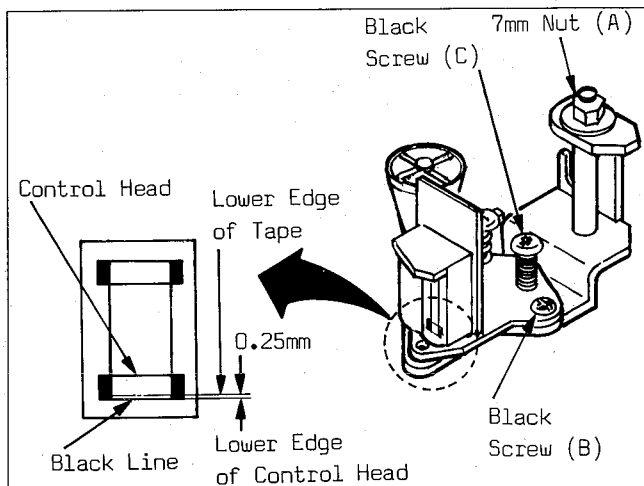

Fig. M9
2. If adjustment is required, turn Black Screw (C), in Fig. M9, clockwise until curling is apparent at lower edge of P4. Then turn Black Screw (C) counterclockwise until the curling smoothes out.
3. Adjust Black Screw (B) on the head base in Fig. M9 so that the output level is at a maximum.
4. Readjust 7mm Nut (A) shown in Fig. M9 for maximum output.